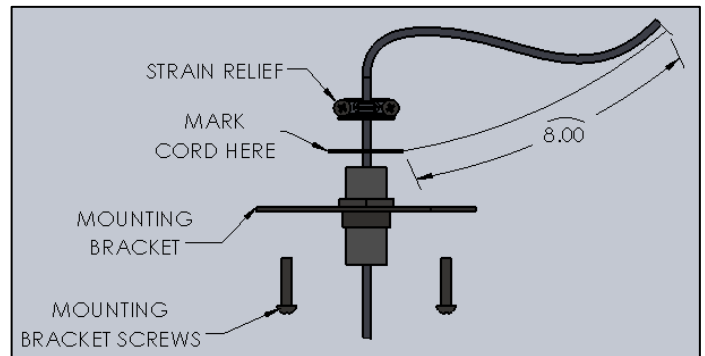

FIG. 18– CORD INSTALLATION TO J-BOX
4. Mark CORD with marker above the all-thread and Trim off excess cord leaving minimum of 8" past the Top of the all-thread as shown below in FIG. 18.